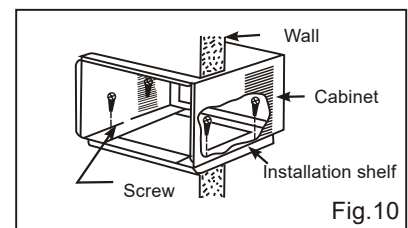

Fig.10
8. Install the air conditioner cabinet on the installation shelf (not included) with screws. (Fig.10)